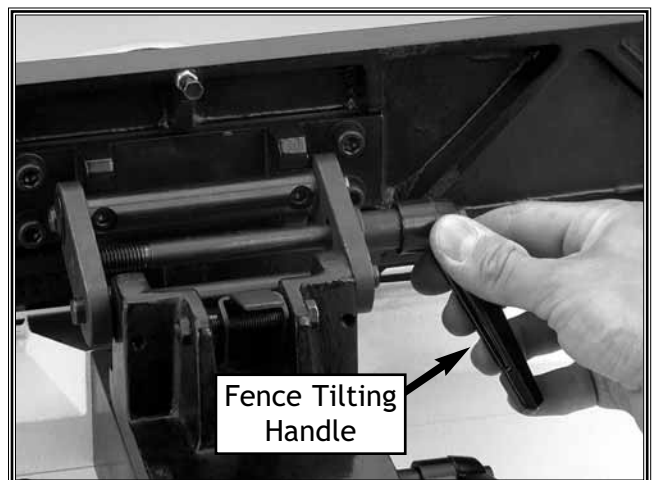

Figure 13. Securing the fence tilting handle.
4. Secure the fence position by threading the fence tilting handle through the fence adjusting bracket (**Figure 13**). *Further adjustment of the fence will be discussed in the **Adjustments** section.*